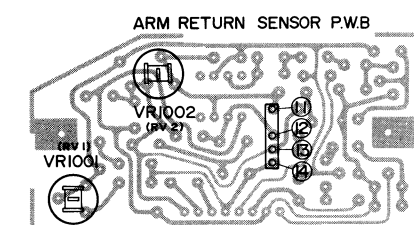

Figure 54-2 ALIGNMENT POINTS (PLAYER SECTION)
(Refer to Figure 54-2)
1) PHOTO TRANSISTOR (Refer to Figure 54-2)
2) SENSOR SENSITIVITY (Refer to Figure 54-2)